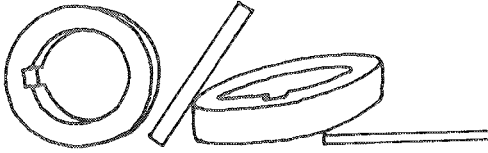

Fig. 1.42 Assorted thickness spacers.
- Spacers or shims of varying thickness are inserted between the two halves of the unit and are squeezed together by the spindle locking nut (**Fig. 1.42**).